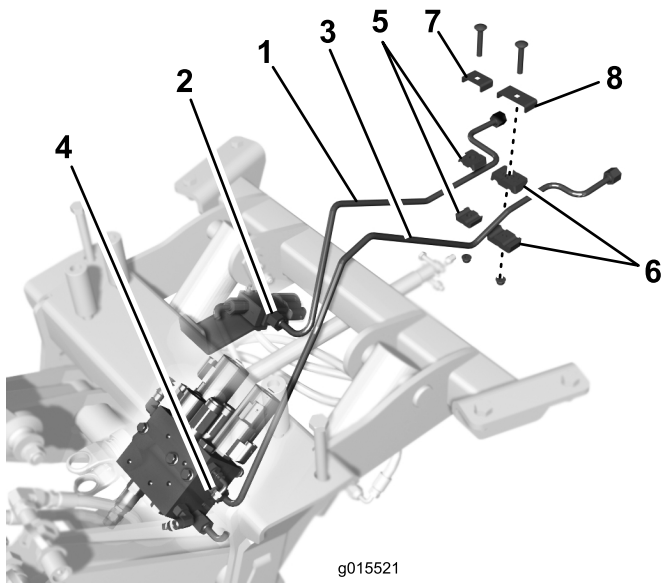

Figure 9
3. Connect the rear end of the shorter hydraulic tube to the tube on the machine (Figure 9).
4. Connect the rear end of the longer hydraulic tube to the tube on the machine (Figure 9).
6. Loosely secure the shorter hydraulic tube to the adjacent tube, on the machine, with the smaller tube clamp, plate, carriage screw, and flange nut, as shown in Figure 9.
7. Loosely secure the longer hydraulic tube to the adjacent tube, on the machine, with the larger tube clamp, plate, carriage screw, and flange nut, as shown in Figure 9.